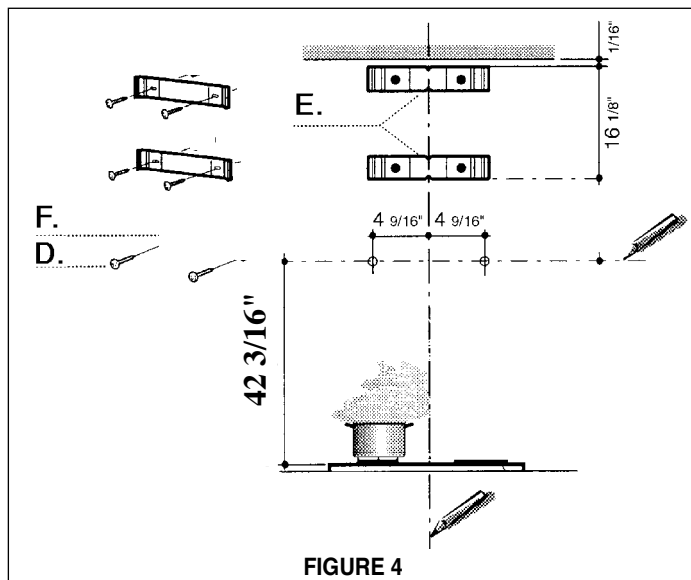

FIGURE 4
3. Draw a horizontal line the height of $42 \frac{3}{16}$ " from the counter top (as indicated in **FIGURE 4**). This will install the hood approximately 18" from the cooking surface (the recommended height).
4. Place the UPPER CHIMNEY MOUNTING BRACKET (E) on the wall as shown $\frac{1}{16}$ " from the ceiling, aligning the center notch with the vertical center line. Mark the wall at the centers of the holes in the bracket.
5. Place the LOWER CHIMNEY MOUNTING BRACKET (E) on the wall as shown at $16 \frac{1}{8}$ " below the upper bracket, aligning the center notch with the vertical center line. Mark the wall at the centers of the holes in the bracket.
6. Install the CHIMNEY MOUNTING BRACKETS (E) on the wall using the MOUNTING SCREWS (D) provided.
7. For the most secure installation, the MOUNTING SCREWS (D) which mount the CANOPY SECTION (A in **FIGURE 1**) should be installed into wood. Mark the wall along the horizontal line $4 \frac{9}{16}$ " in from the center line on either side (as indicated in **FIGURE 4**) and install the MOUNTING SCREWS into the wall leaving about $\frac{1}{4}$ " gap between the wall and the head of the screw.